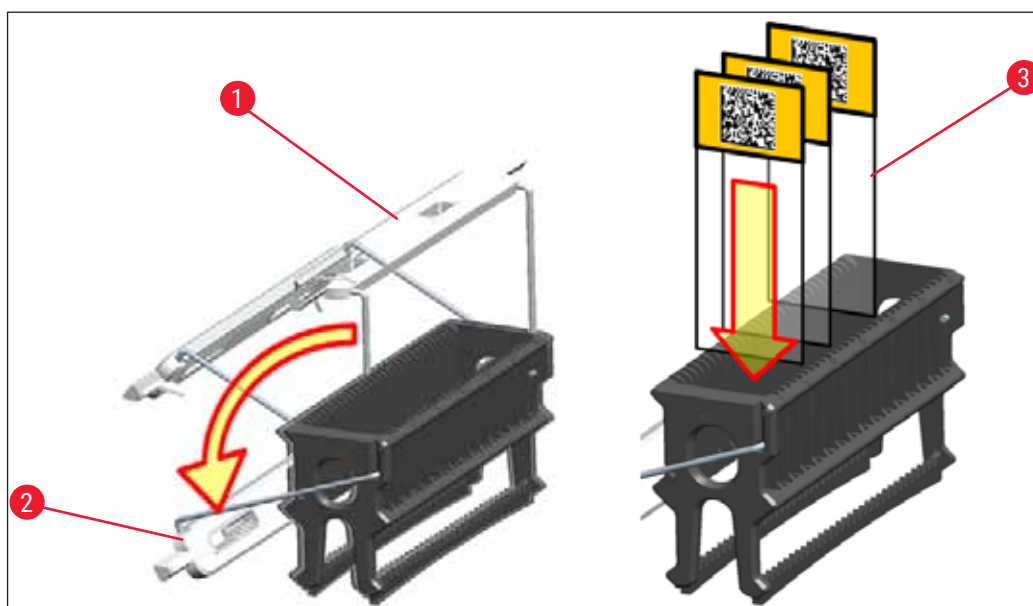

Fig. 81
- The front side of the rack is labeled with the Leica logo. With the handle attached, **FRONT** can be read when looking at the handle (→ "Fig. 81").
1. Fold the rack handle into the upright position (→ "Fig. 81").